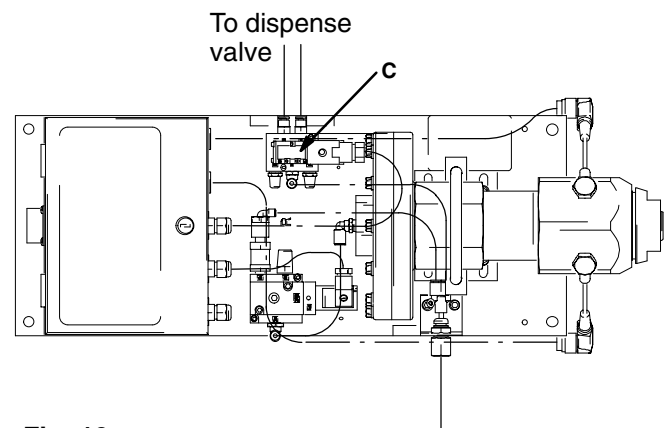

Fig. 10
7. Refer to Fig. 10 and perform the following steps to open the dispense device and relieve fluid pressure:
- a. To relieve fluid pressure, manually actuate the plunger on the solenoid (C) that opens the dispense device.